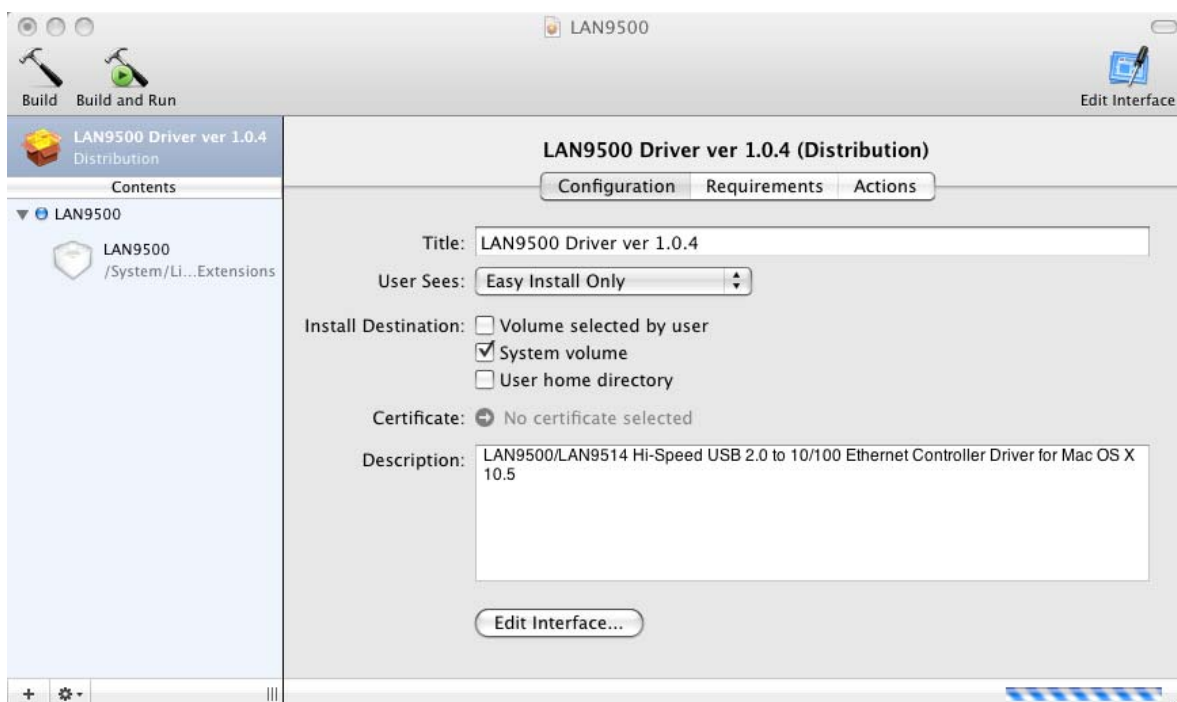

Figure 7.3 Adding LAN9500.kext
4. Execute PackageMaker and add the LAN9500.kext file by selecting the "+" and browsing to its location, as shown in Figure 7.3. Fill in the "Title" and "Description" fields as desired.